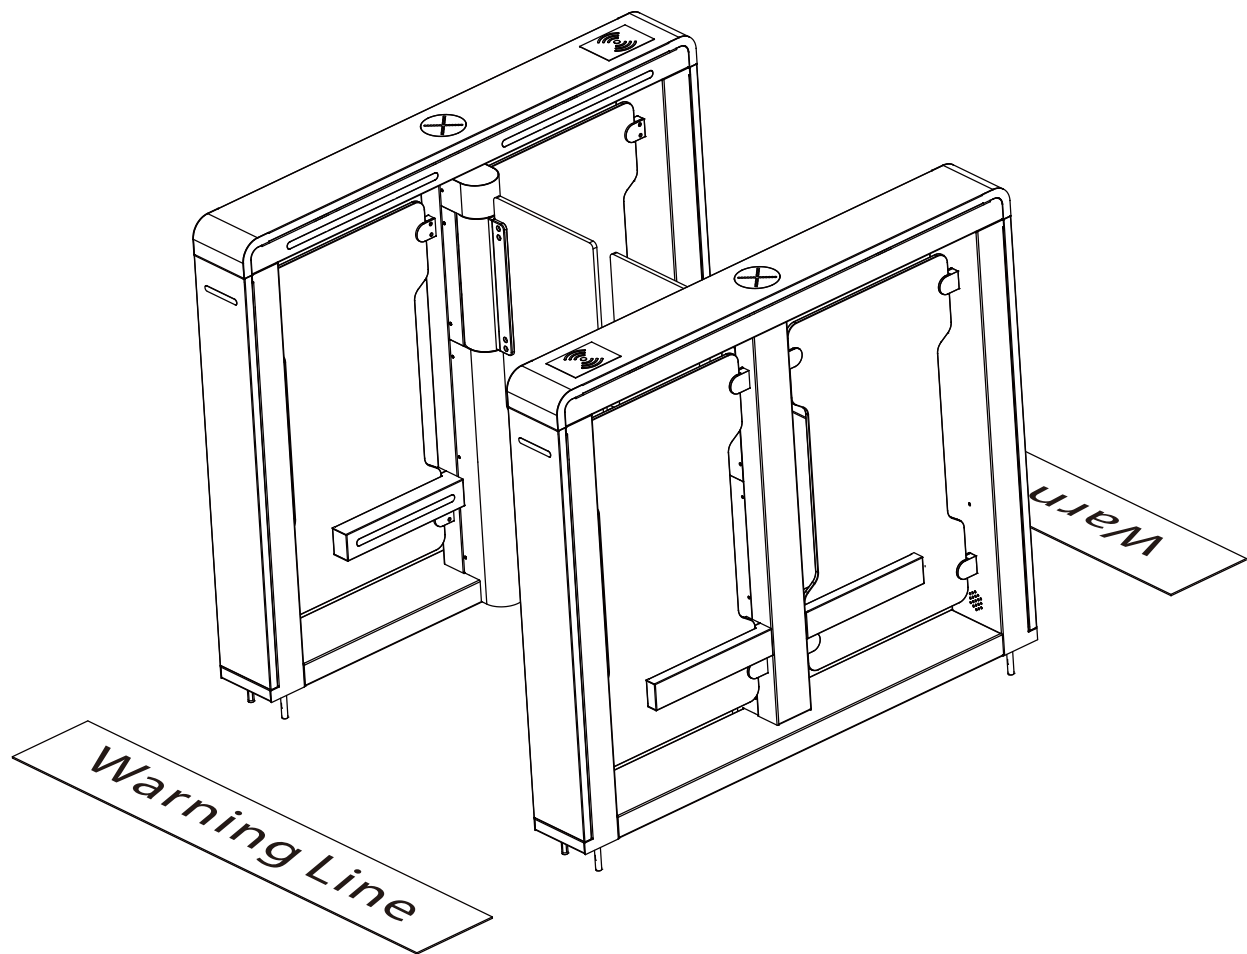

Figure 4-3
6. It is recommended that a warning line be marked on the ground after installing the device, so as to prompt the pedestrian to stand behind the warning line when swiping the card. As shown in Figure 4-3: